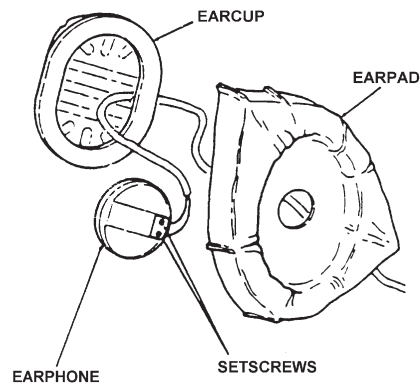

Figure 3-9. Earphone Contacts Inserted into Earphone
- e. Referring to Figure 3-9, insert the earphone contacts into the earphones and tighten the setscrews.